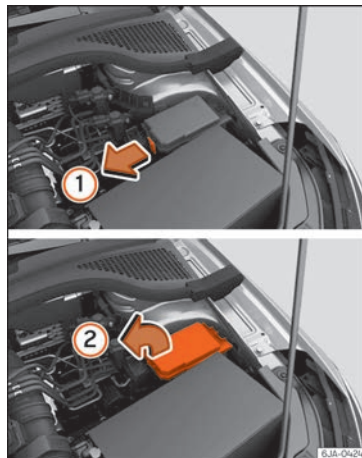

Fig. 87 In the engine compartment: lid of the fuse box - Variant 1
- Press lid locking clip upwards in the direction of the arrow **1** »» Fig. 87 or »» Fig. 88.